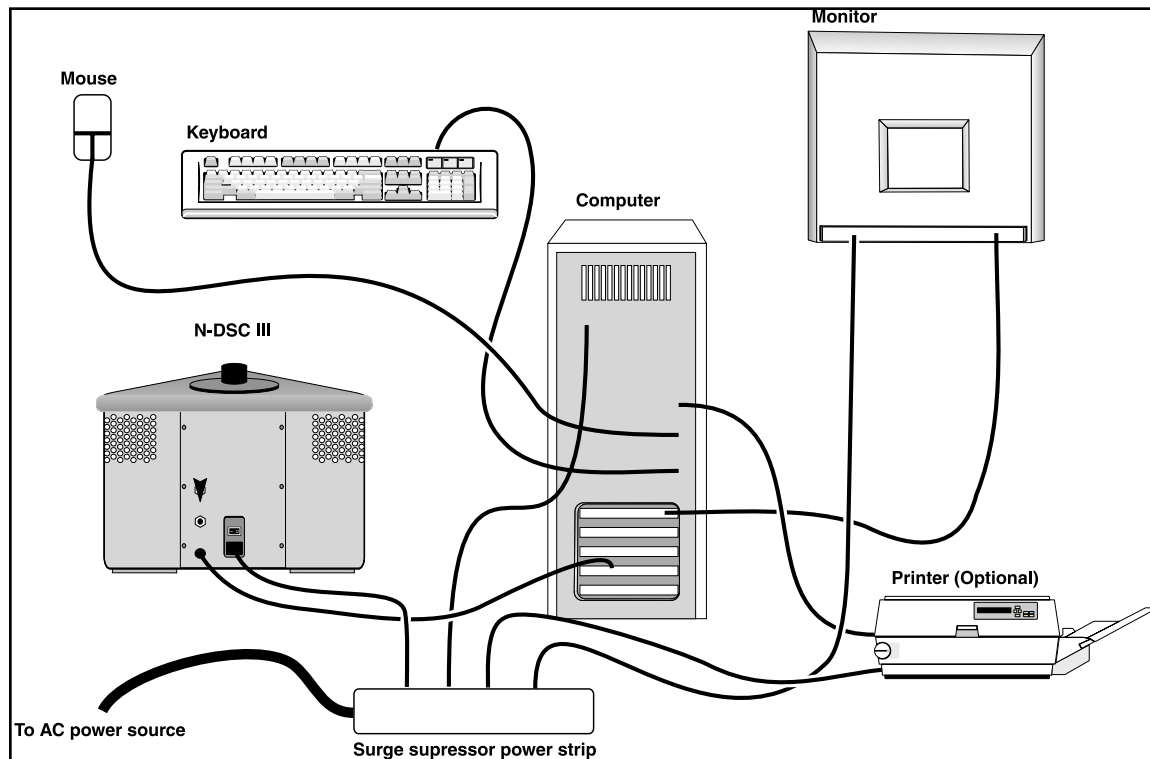

Figure 2-2: N-DSC III interconnection diagram.
Using the diagram shown in Figure 2-2 for reference, attach the connectors as indicated.
4. Assemble the computer system per the instructions included in its shipment carton. This basic connection information is also shown in Figure 2-2, however, your system may vary slightly from the figure shown.